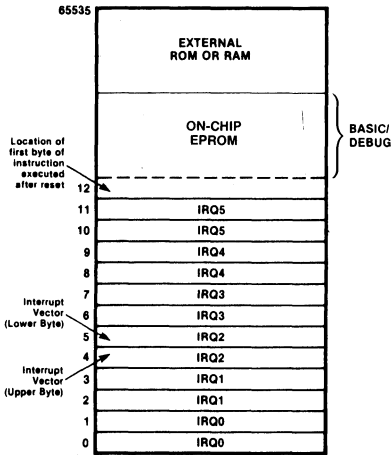

Figure 4. Program Memory Map
**Program Memory.** The 16-bit program counter addresses 64K bytes of program memory space. Program memory can be located in two areas: one internal and the other external (Figure 4). The first 4096 bytes consist of on-chip EPROM. At addresses 4096 and greater, the Z86E11 executes external program memory fetches.